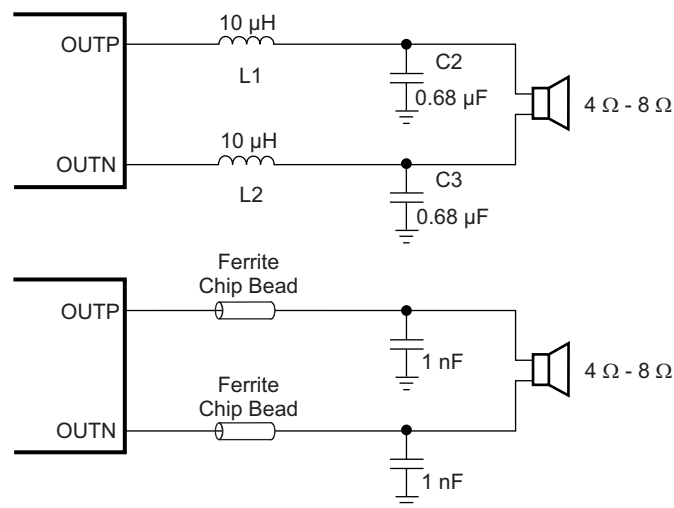

图 33. TPA31xxD2 Output Filters
- Output filter — The ferrite EMI filter (see Figure 33) should be placed as close to the output terminals as possible for the best EMI performance. The LC filter should be placed close to the outputs. The capacitors used in both the ferrite and LC filters should be grounded.